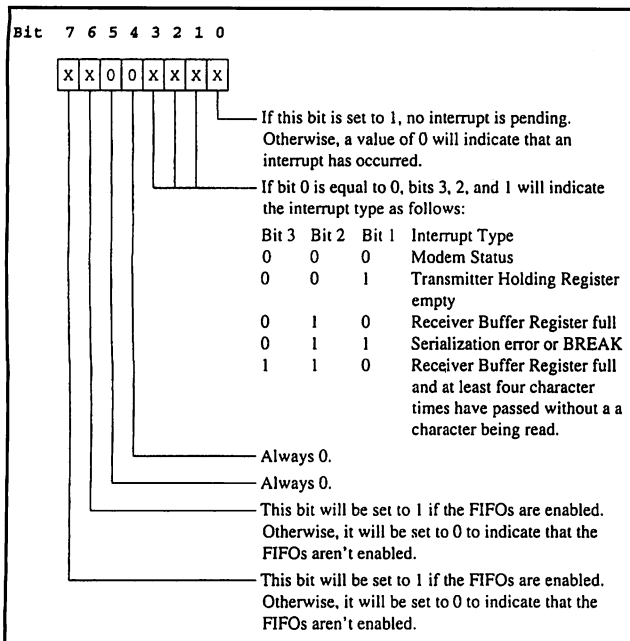
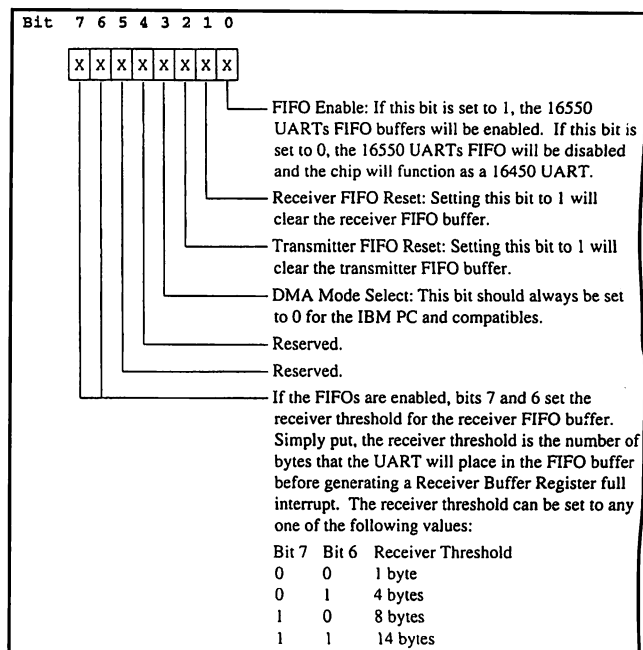

Fig. 6. Interrupt-Identification Register for 16550.
Fig. 7. FIFO Control Register.
• **Interrupt-Identification Register.** This register is located at 0x3FA and is used to determine what interrupt has occurred. The 8250 version of this register is shown in Fig. 5. Note the ability of this register to enable or disable the FIFOs (first-in, first-out) for the 16550 in Fig. 6. In the 8250, this is a read-only register. In the 16550, you can also write to this register to set FIFO operation. When writing to this register, use address 0x3FA. When used for setting FIFO operation, this register is called the FIFO Control Register, or FCR. The FCR is depicted in Fig. 7.